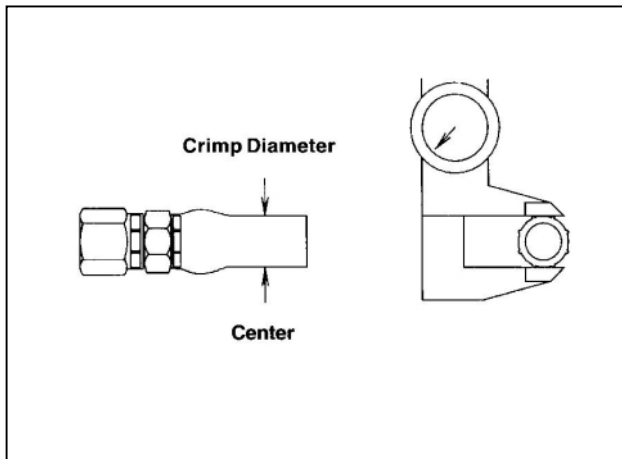

Figure 3: Fitting crimp diameter should be 0.893 inch at most. The crimp diameter is measured in the center of the crimping area
2. the crimp diameter of the affected hose fittings, which should be 0.893 inch (22.7 mm) maximum as indicated in Figure 3.